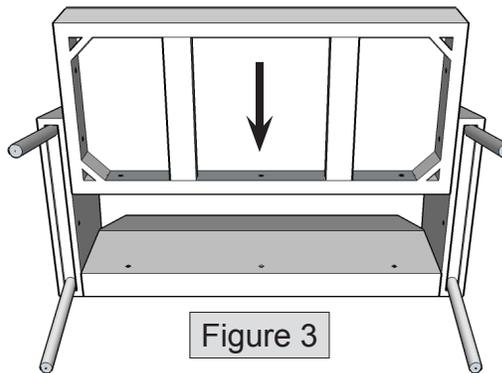

Figure 3
5. Lay assembly on its back on a soft, clean surface and slide seat cushion into place, as shown in figure 3.